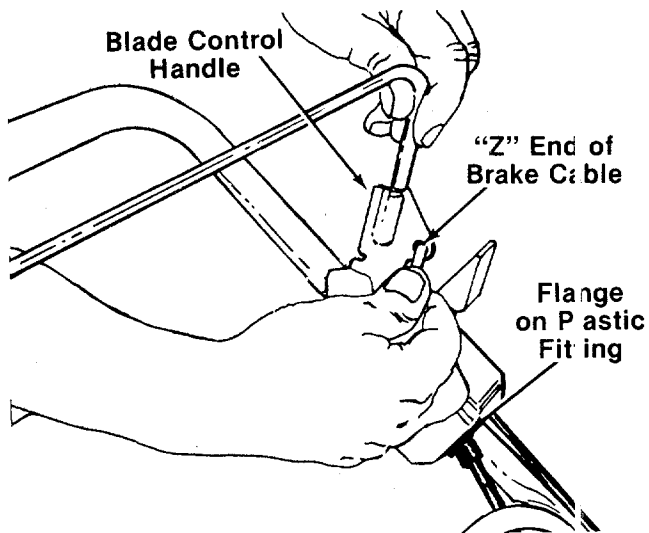

FIGURE 6.
7. Snap the plastic fitting on the end of the cable into the control housing. Hook the "Z" end of the brake cable into the hole in the blade control handle. See figure 6. If additional slack is needed in order to hook the cable into the handle, proceed as follows.